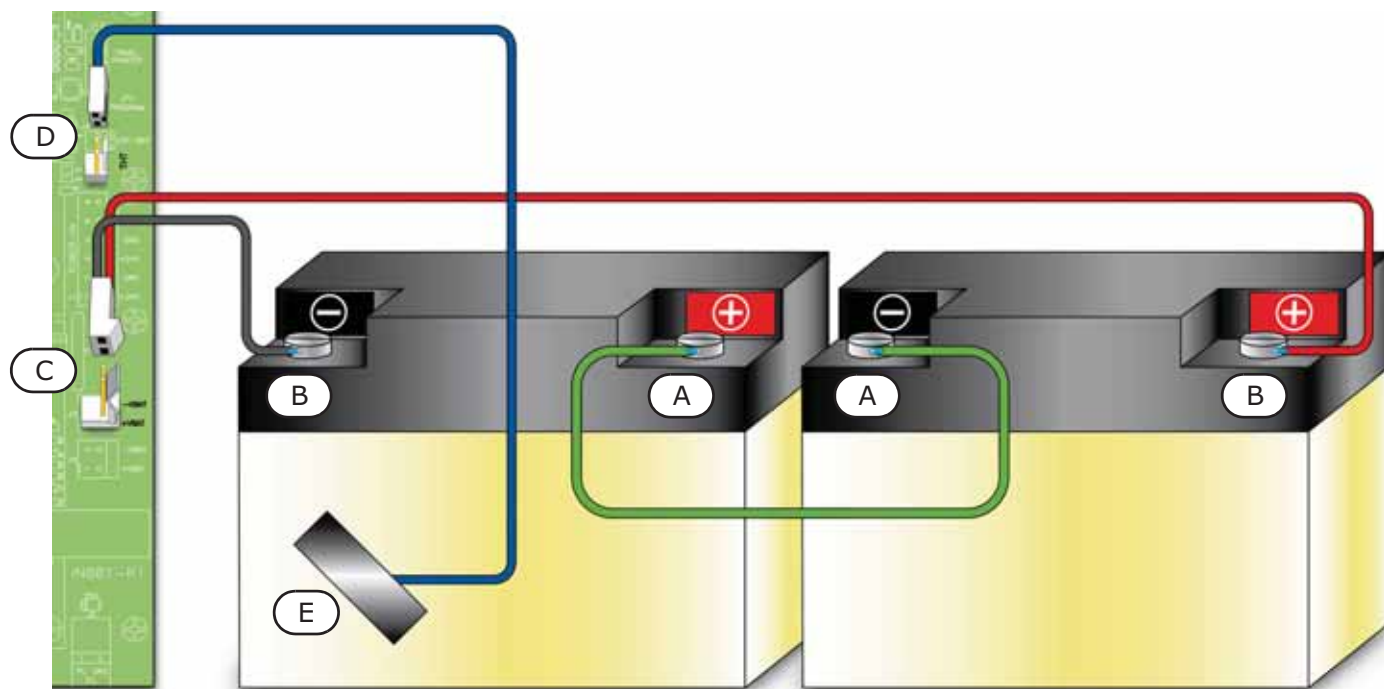

Figure 27 - Connecting the batteries
2. Using the battery wire (Figure 27 - [A]), connect the batteries together.
3. Using the battery terminal eyelet wires (included), connect the battery (Figure 27 - [B]).
4. Connect the battery wire connector (Figure 27 - [C]) to the control panel (paragraph 4.2 - [R]).
2. Connect the thermal probe (Figure 27 - [D]) to the connector (paragraph 4.2 - [O]) on the motherboard.
3. Using a strip of strongly-adhesive insulating tape (Figure 27 - [E]), attach the Thermal probe to one of the batteries, in such way as to provide optimized heat-transfer measurements.